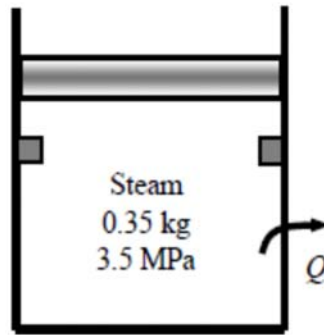

Figure 3
- [b] A piston-cylinder device initially contains 0.35 kg steam at 3.5 MPa and 250°C. Now the steam losses heat to the surroundings and the piston moves down hitting a stopper (Figure 3) at which point the cylinder contains saturated liquid water. The cooling continues until the cylinder contains water mixture at 200°C.